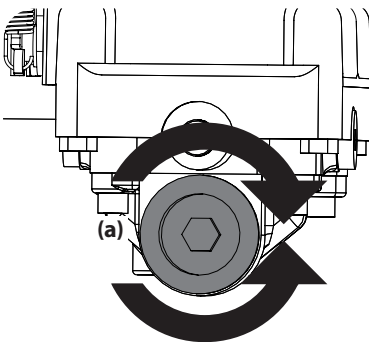

Figure 34
2. Place a suitable container under the drain plug (a) on the transmission. Remove the drain plug (a) and allow the transmission oil to drain. See Figure 34.